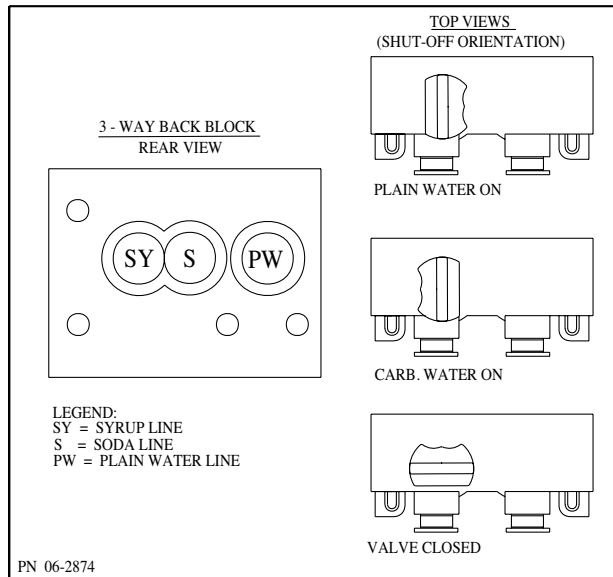

Figure 1
- For a five-valve unit, valve 3 can be set to deliver either plain or carbonated water. Refer to Figure 1.